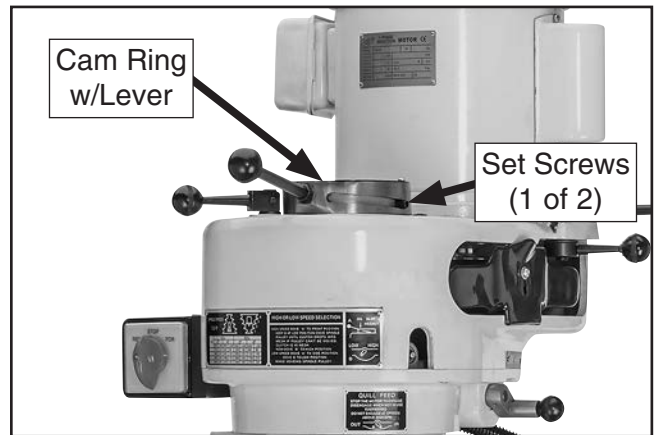

Figure 92. Once set screws are removed, cam ring and lever can be lifted off.
6. Remove set screw from each side of cam ring, then remove cam ring with attached lever (see **Figure 92**).